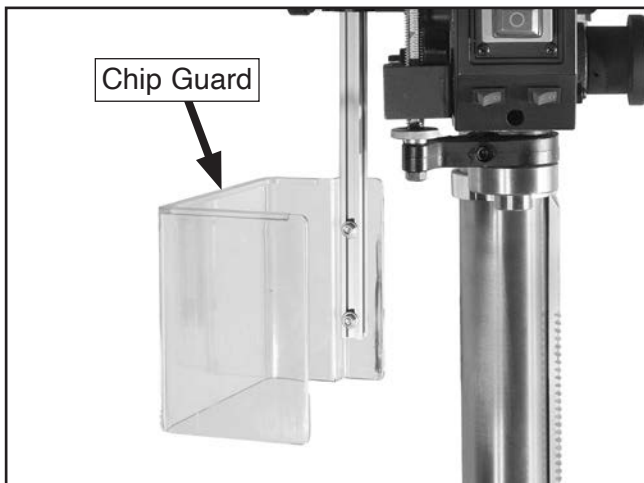

Figure 30. Chip guard pivoted away from spindle (T33960 shown).
6. While being careful to avoid rotating spindle, pivot chip guard forward and away from spindle (see **Figure 30**). Spindle should stop rotating.